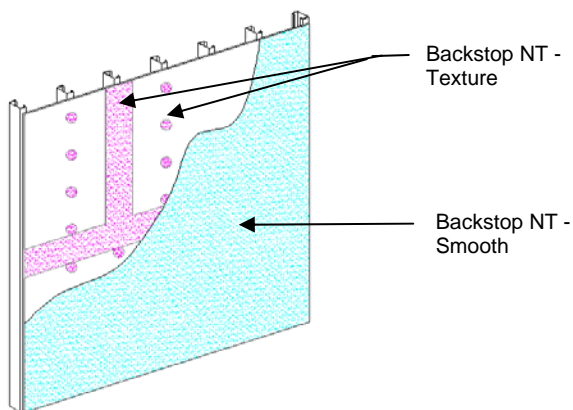

Figure 4
- a. General: Dryvit Backstop NT - Smooth can be applied using a roller or sprayed and back-rolled over the acceptable sheathing substrates. **NOTE: OSB sheathing requires that joints and fasteners be treated with Backstop NT - Texture. A minimum of two (2) coats of Backstop NT - Smooth are required for the field of the wall. Backstop NT - Texture is not recommended for application in the field of the board.**
- 2) Backstop NT - Smooth material should be applied in a uniform, continuous film at the recommended coverage rate – Figure 4. **NOTE: Sheathing substrates with a surface texture or high porosity will require additional material.**